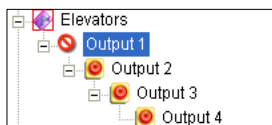
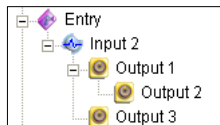
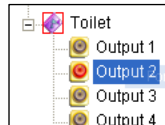

Figure 4-73
Figure 4-74
Figure 4-75
- In the Advanced I/O List, considering cascade triggers, you can only manually force the output at the top level, e.g. Figure 4-73. Other outputs at sub levels cannot be forced manually, e.g. Figure 4-74. However, if the output is not in a cascading hierarchy, you can definitely force it manually, e.g. Figure 4-75.